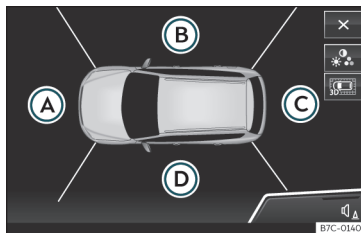

Fig. 238 Display of the Area View system: aerial view.
Key to the Fig. 238:
The aerial view is generated by combining the images from all the cameras  >>> **Fig. 238**. The aerial view can be selected by pressing the *vehicle* in the area.
Select the corresponding view by pressing the different areas >>> **Fig. 238** (A) to (D) of the aerial view or the reduced aerial view.
Manual connection of the display:	Press the P button \ggg Fig. 239 once. The infotainment system screen displays the aerial view \ggg Fig. 238 . If you press the P button when driving above 15 km/h (9 mph), the image will not be displayed.